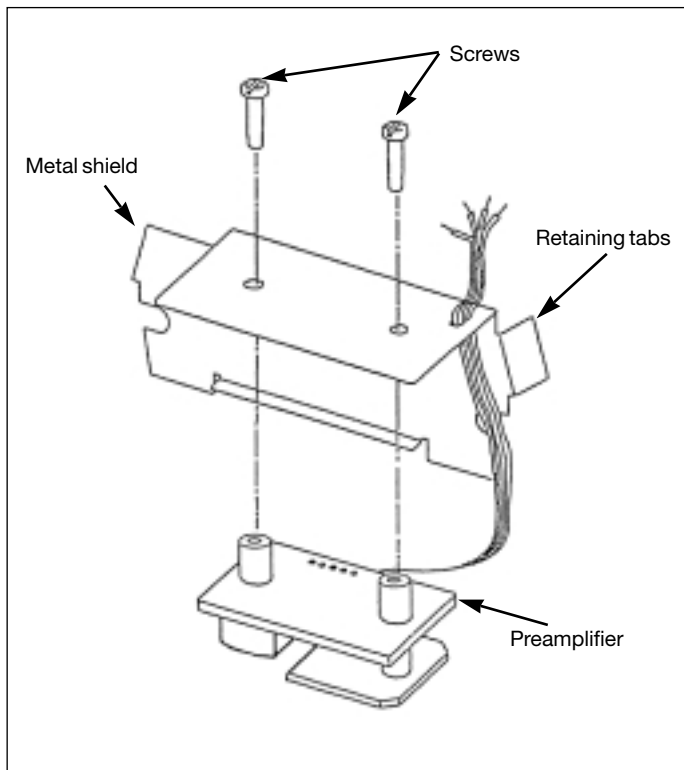
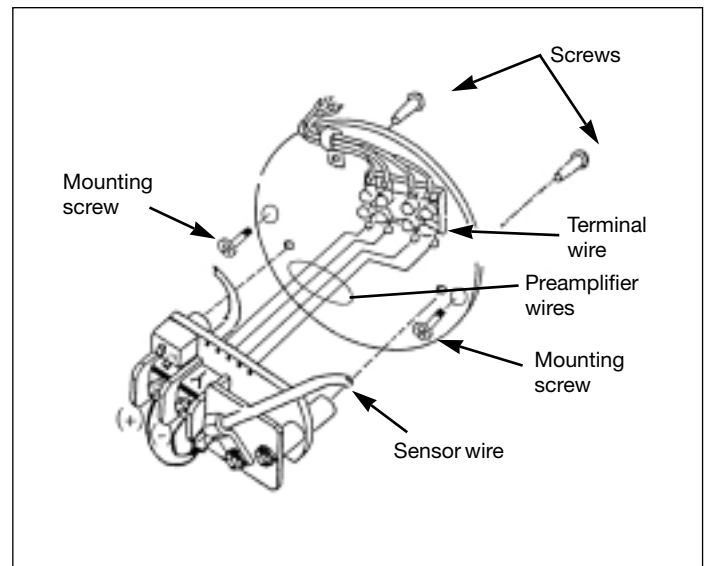

Figure 22. Preamplifier Assembly - Integral Mount Extended Temperature Range
Figure 23: Preamplifier Assembly - Remote Mount Assembly.
The Preamplifier assembly (shown in Figure 22) consists of the preamplifier with a shield for integral mounted electronics (or with a mounting plate for remote mounted electronics, as shown in Figure 23). The preamp has a sensor switch which must be set to STD for standard temperature sensors and set to EXT for extended temperature range sensors.
- Pry the retaining tabs of the metal shield away from the housing, using a straight blade screwdriver, and pull the whole assembly out. See Figure 22.
- Remove the Preamplifier from the shield by removing the two screws. See figure 22. Save the two screws and metal shield.
- Remove the junction box cover. The Preamplifier and a 4-position two-sided terminal block are mounted on a round plate in the junction box, as shown in Figure 23.
- Disconnect (brown-red-orange-yellow) wires from both sides of the terminal block and remove strain relief clamp holding remote cable. Refer to Figure 23.
- Mount the new preamplifier to the metal shield using the original screws. See Figure 22.
- Mount the new preamplifier on the mounting plate using the two screws. Refer to Figure 23.
- Connect (brown-red-orange-yellow) cable from preamplifier to one side of the two-sided terminal block on the mounting plate. See Figure 23.
- Mount the new pre-amplifier on the mounting plate using the two screws. Refer to Figure 23.
- Before placing assembly into the junction box, connect the four (brown-red-orange-yellow) wires entering the junction box through a conduit opening, to the other side of the terminal block on the mounting plate (following the same sequence as the ribbon cable from the pre-amplifier). See Figure 23.